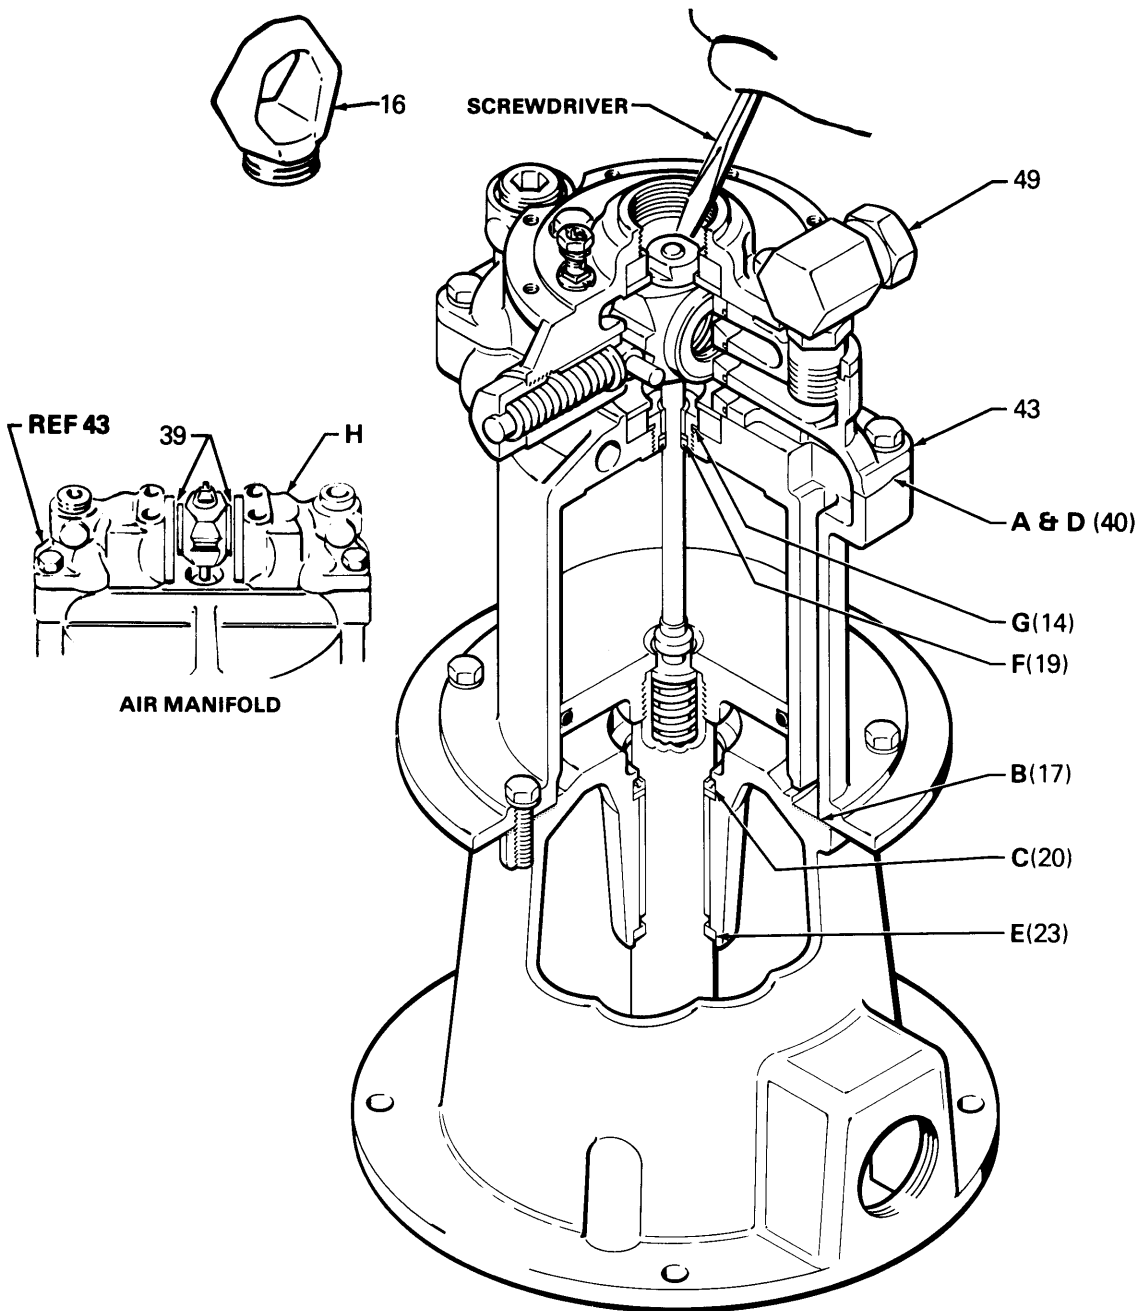

Fig 3
To re-start a stalled motor, screw the lift ring (16) out of the detent housing (36) and use a screwdriver to push the valve housing (29) down. See Fig 3, page 5.
union back into the manifold. See Fig 3. Connect the air hose and turn the air on, then use the checking methods listed in the Check Chart, above, to find where air is leaking.